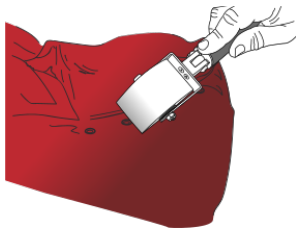

Figure 18
- Then slide the ROLLRIV over the film to make it adhere to the entire rivet surface. Press it all around the rivet using a squeegee or your thumb. (FIG. 18)